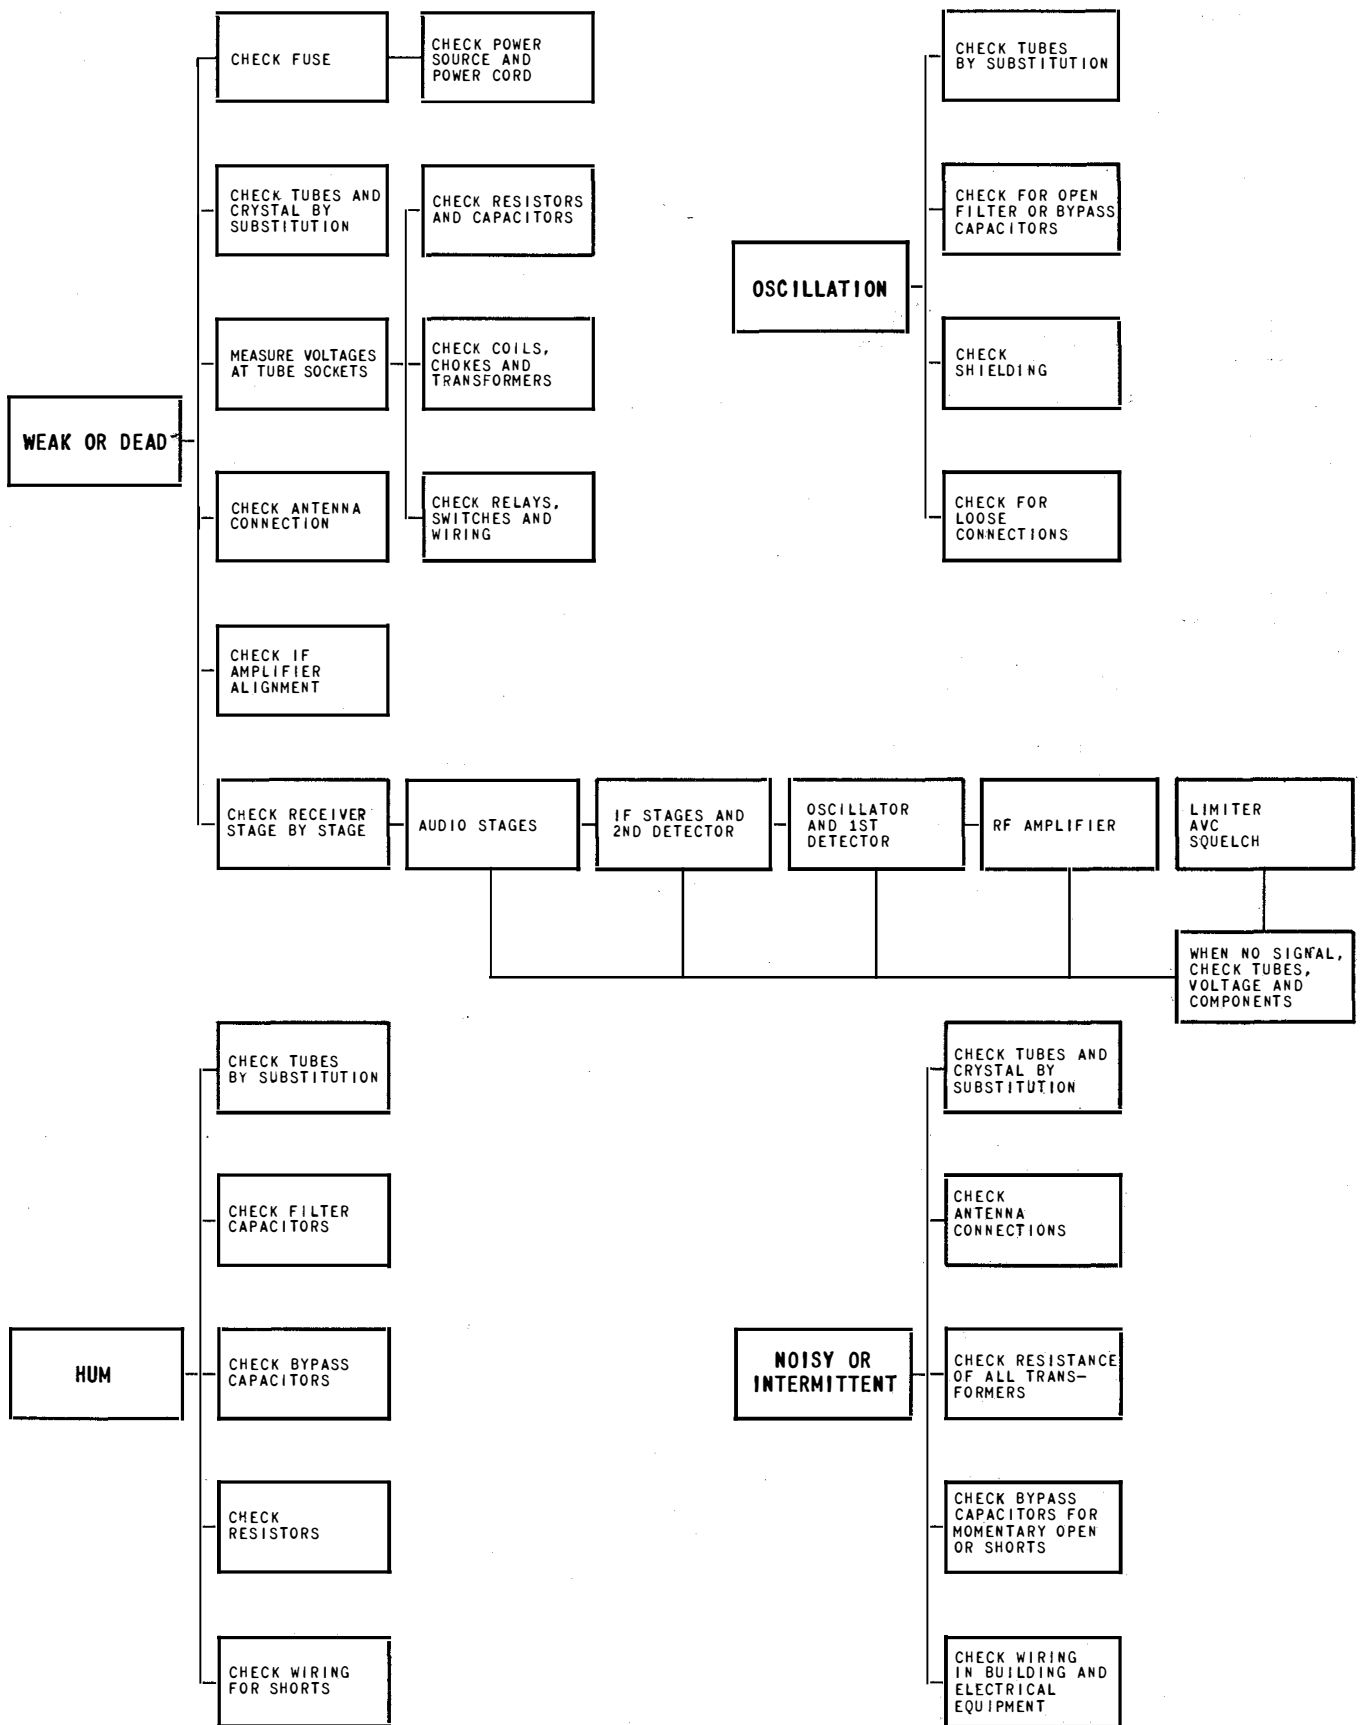

Figure 5-4—Receiver Trouble Locating Block Diagram
(1) BLOCK DIAGRAM. — Figure 5-4 shows the procedure to be followed for the checking for trouble in the receiver. With the receiver trouble symptoms in mind, study the block diagram and